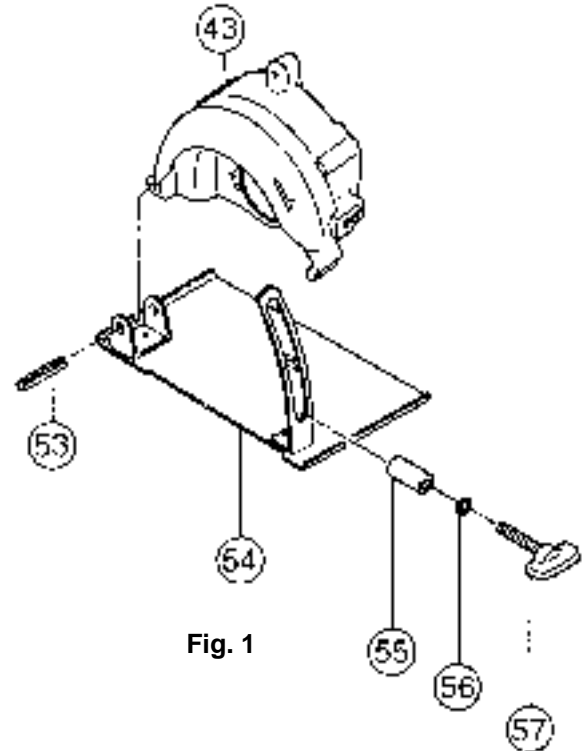

Fig. 1
(2) Disassembly of the gear cover and the base (Fig. 1).
- ① Loosen the three Machine Screws M5 x 25 **[21]** which fasten the Housing Ass'y **[17]** and the Gear Cover **[43]**, and remove the Gear Cover.
- ② Loosen the Wing Bolt M6 x 37 **[57]** that couples the Base **[54]** and the Gear Cover **[43]**, and take off the Spring Washer M6 **[56]** and the Sleeve **[55]**.
- ③ Next, extract the Roll Pin D6 x 32 **[53]** which fastens the Base **[54]** and the Gear Cover **[43]** and remove the Base.